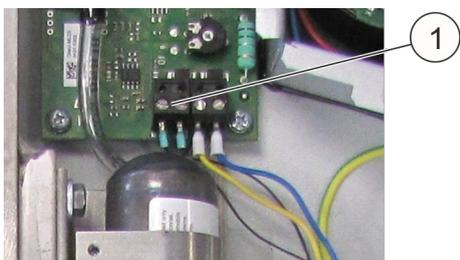

Fig. 53: Connection loss monitoring
10. ▶ Loosen the electrical connection (Fig. 53/1) of the loss monitoring.